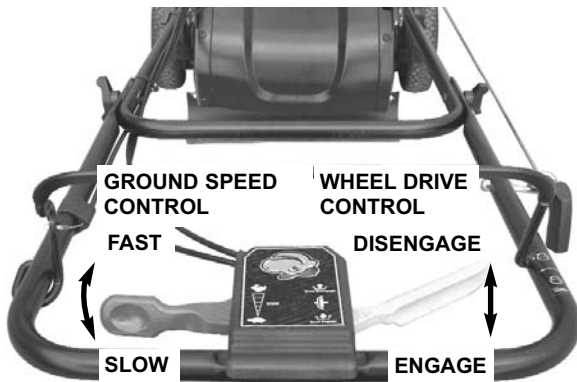
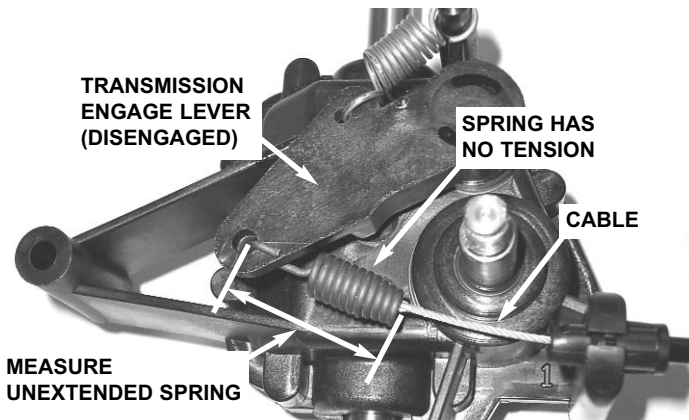
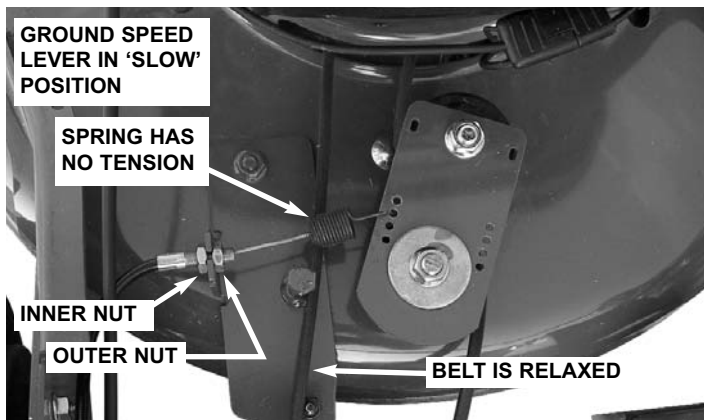
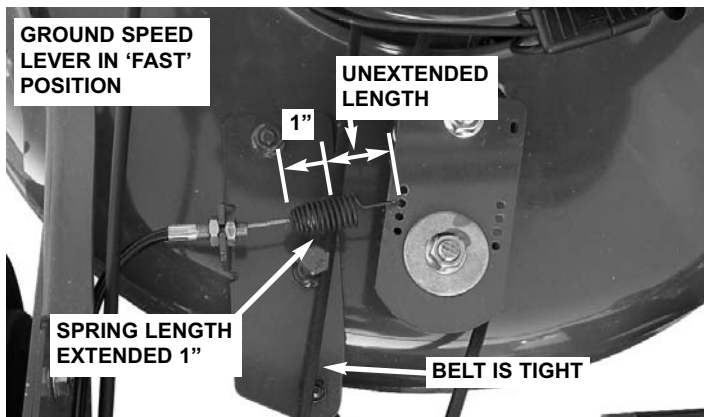

FIGURE 4.4
FIGURE 4.5
FIGURE 4.6
FIGURE 4.7
The wheel drive control lever should engage the transmission when the lever is squeezed back against the handlebar, and disengage the transmission when the lever is released. See Figure 4.4.
2. With wheel drive control lever in 'DISENGAGE' position (see Figure 4.4), spring on end of wheel drive control cable should have no tension. Measure overall length of unextended spring. See Figure 4.5.
- a. With lever in 'SLOW' position (see Figure 4.4), belt is relaxed, and idler spring on end of ground speed control cable has no extension. See Figure 4.6.
- b. With lever in 'FAST' position (see Figure 4.4), belt is tight, and idler spring on end of ground speed control cable is extended approx. 1". See Figure 4.7.
Loosen outer nut on end of ground speed cable, and run inner nut in toward cable (clockwise) or out from cable (counterclockwise) by 1/2 turn increments until correct adjustments are attained. See Figure 4.6. Be sure to tighten outer nut.
2. Place ground speed control lever in 'SLOW' position. See Figure 4.4.